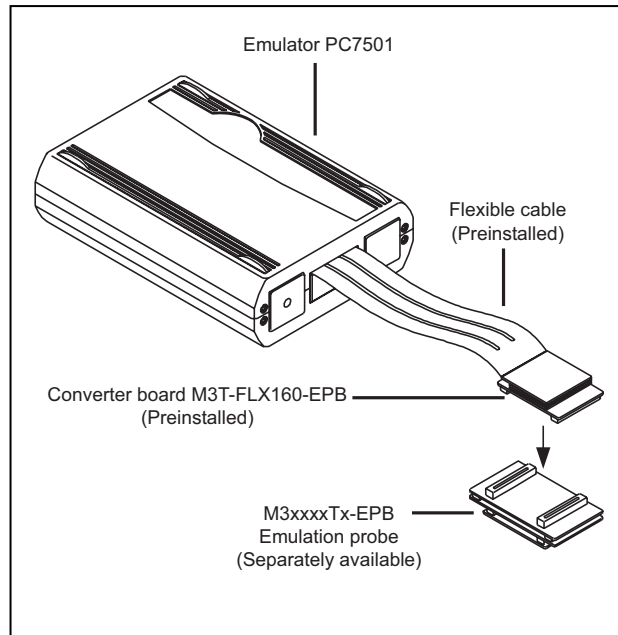

Figure 4.9 Connecting the emulation probe
- ⇒ Figure 4.9 Connecting the emulation probe (below)